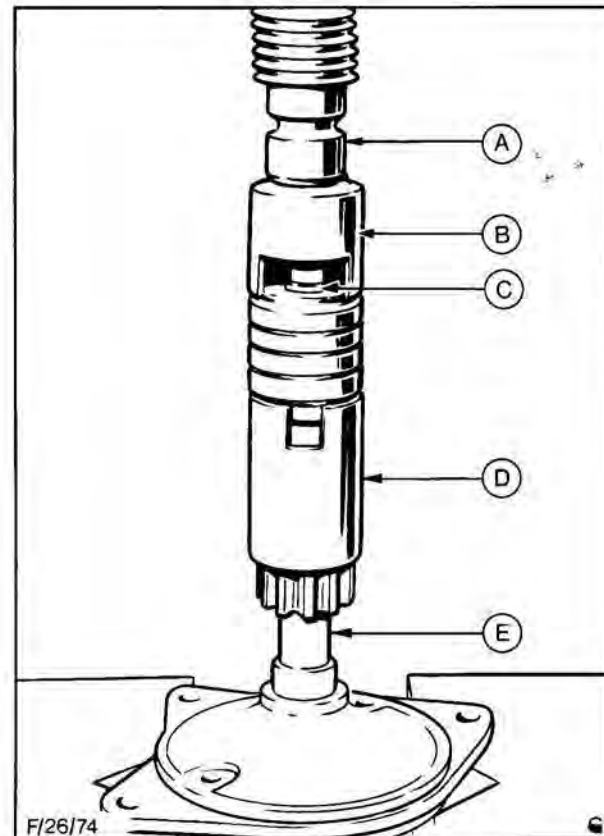

Fig. 23. Removing drive pinion
5. Using a suitable adaptor in a press, Fig. 23, remove drive pinion assembly by compressing spring and removing 'C' clip from armature shaft. Remove main drive pinion assembly from armature shaft.